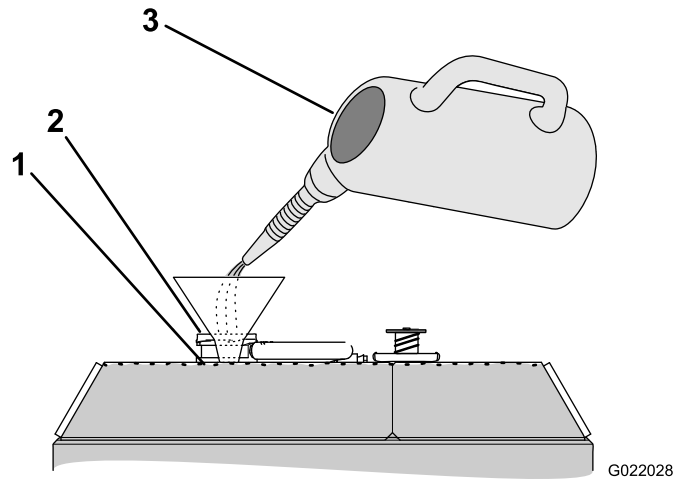

Figure 143
- 3. Fill the radiator with coolant until the fluid level is up to the bottom of the filler neck (Figure 143).